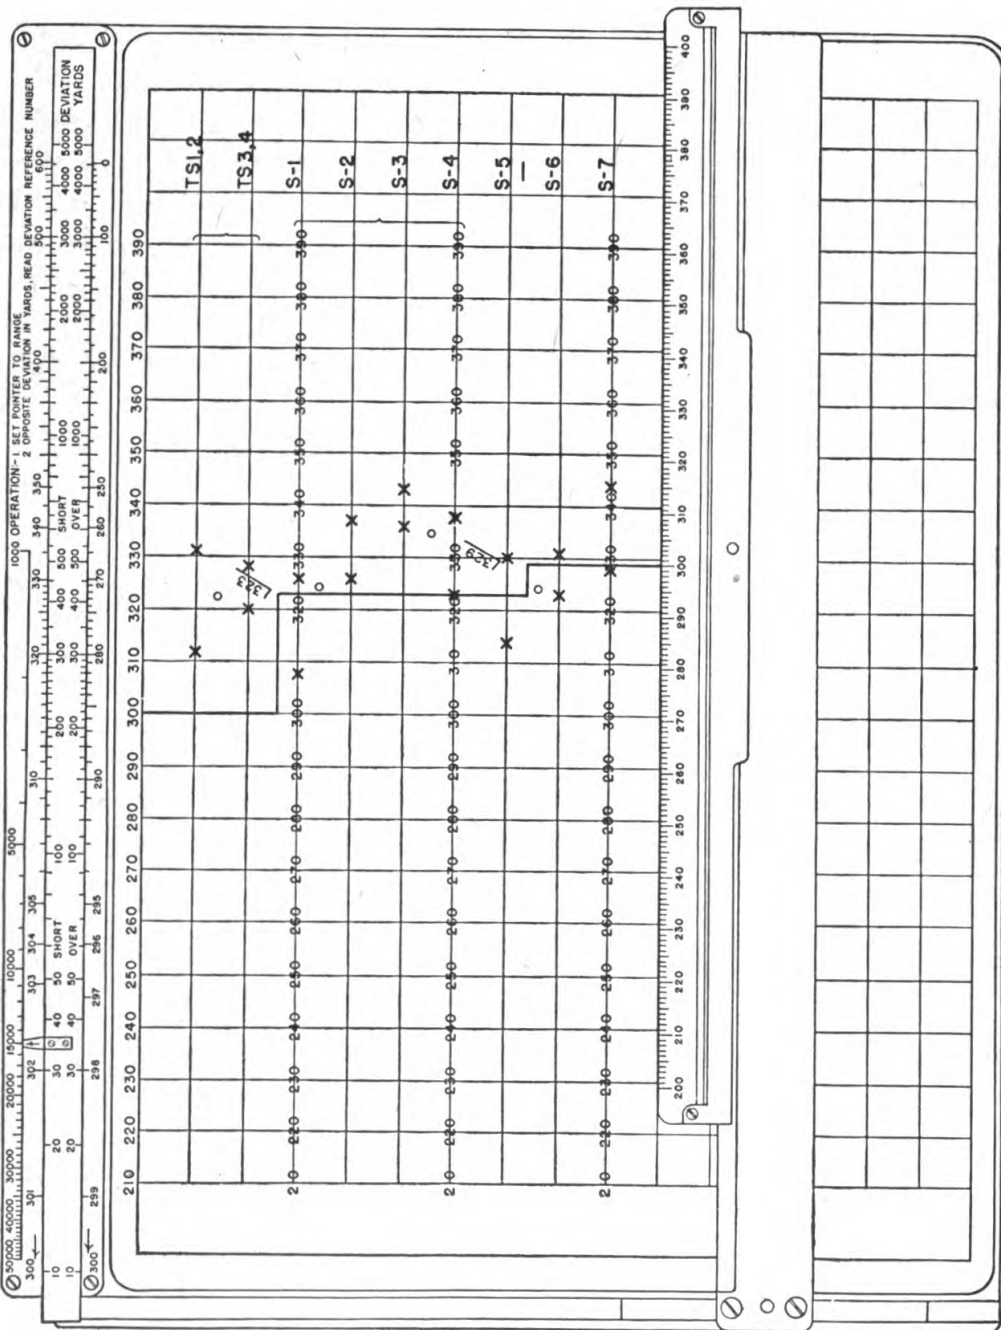

FIGURE 57.—Fire-adjustment board M1.
(1) Magnitude method (when the amount and sense of the deviation are known).
(2) Bracketing method (when the sense only of the deviation is known).
Q. What is the standard fire adjustment board? *A.* Fire adjustment board M1. (See fig. 57.)
(1) A piece of cross-section paper (10 divisions to the inch) is fastened to the board so that the horizontal lines are parallel to the edge of the T-square. Every tenth vertical line—that is, each whole percent line—is numbered each way from the center, 300, 290, 280, etc.,